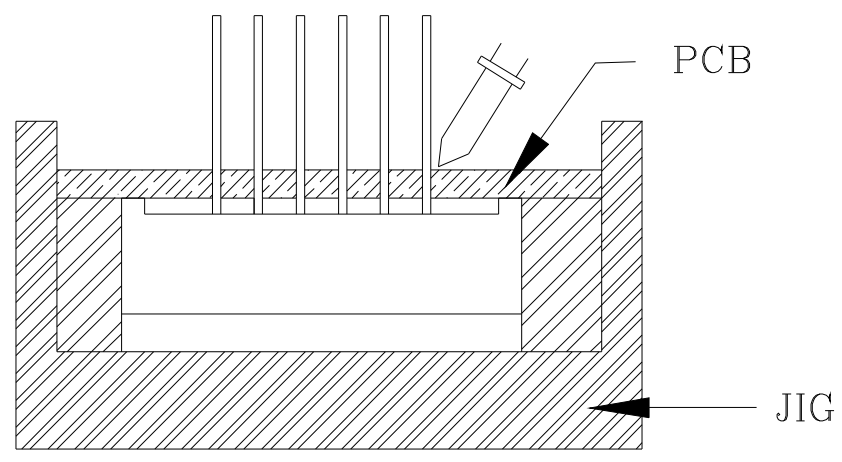

Fig.1
1) When soldering the PIN of Display in a jig that the package is fixed with a panel (See FIG.1), be careful not to stress the PIN with iron tip. When soldering Display in a condition that the package is fixed with a panel, be careful not to cling and stress the surface of Display on the panel to avoid damaging the Display.